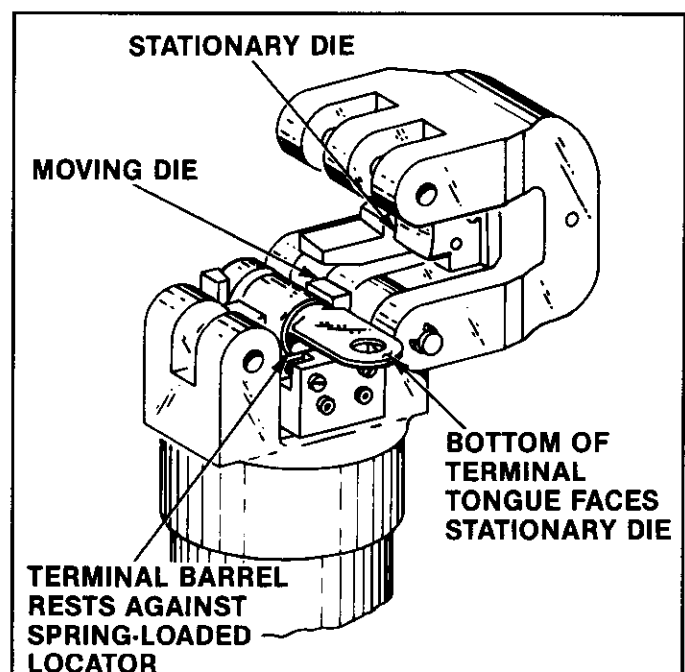

Fig. I-4
5. With yoke on tool open, place terminal in moving die. See Figure I-4. Bottom of terminal tongue should face stationary die, and terminal barrel should rest against spring-loaded locator as shown in Figure I-4.